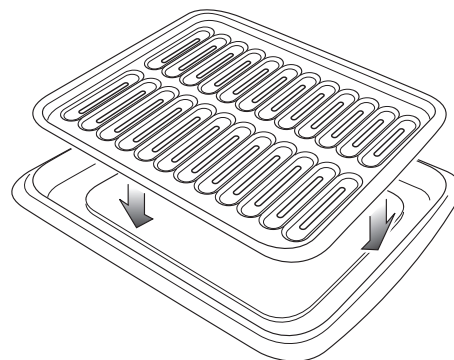

Fig. 3.6
- Introduce the broiling pan (fig. 3.6) in the oven. The broiling pan should be placed above the shelf and it should be centered with the broil element (fig. 3.5).